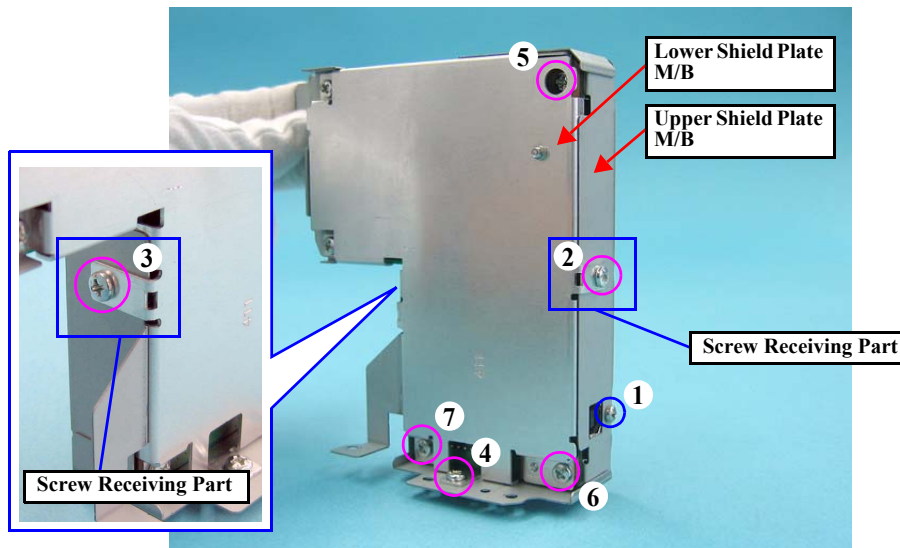
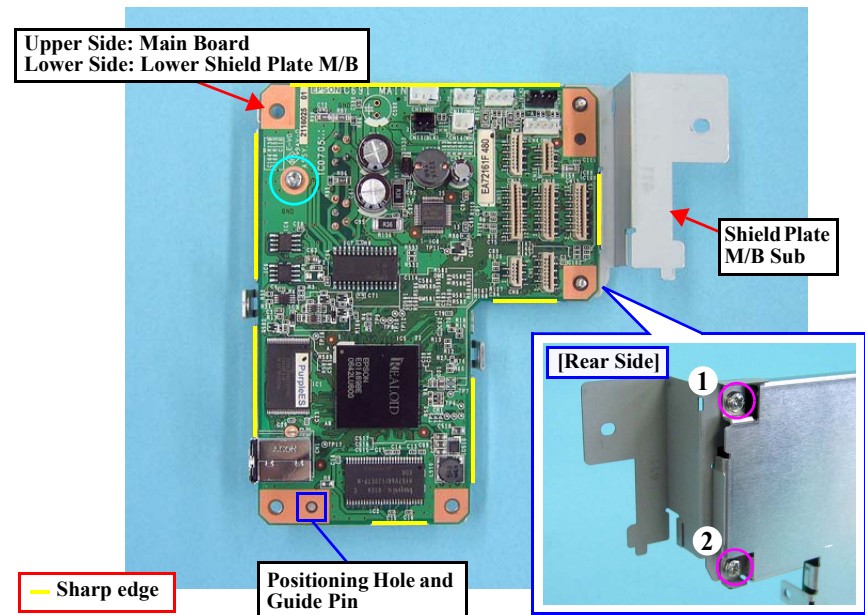

Figure 1-27. Removing the Upper Shield Plate M/B
Figure 1-28. Removing the Main Board
- When installing the Main Board, match the positioning hole with the guide pin shown in Fig.1-28.
- Tighten the screws in the order given in Fig.1-27 (p.29), Fig.1-28.